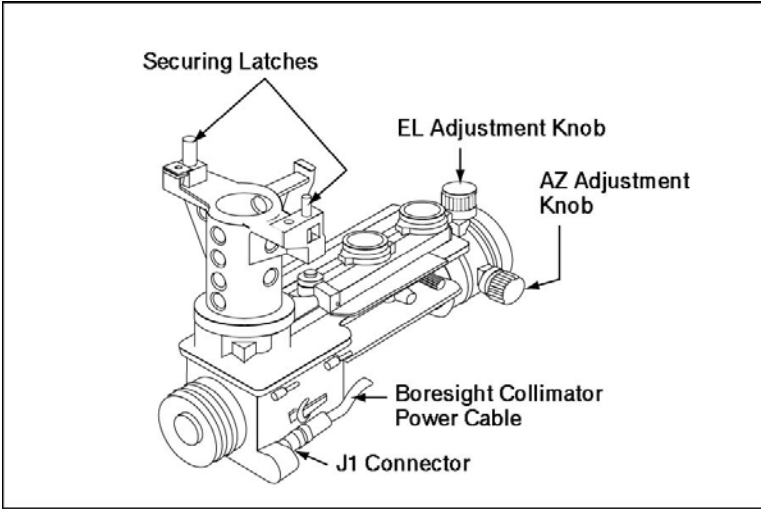

Figure 2-2-8: Boresight Collimator
- 22. **Collimator.** The boresight collimator is used to boresight (align) the TI sight with the optical sight. This is done to ensure that both sights are focused upon the same point. The boresight collimator is secured to the TI sight by aligning the two mating surfaces of the collimator to the locating pins and pads of the TI sight and locked in place by the two securing latches of the boresight collimator. One end of the boresight collimator power cable is connected to the J1 connector of the boresight collimator and the other end to the J4 connector of the TI sight. The boresight collimator azimuth adjustment knob is located at the lower left of the collimator. It is used to align in azimuth the reticle pattern of the collimator with the cross-hairs of the day sight. The boresight collimator elevation adjustment knob is located at the lower rear of the collimator and is used to align the elevation of the collimator reticle with the cross-hairs of the day sight. The boresight collimator comes with its own case and power cable (see Figure 2-2-8).